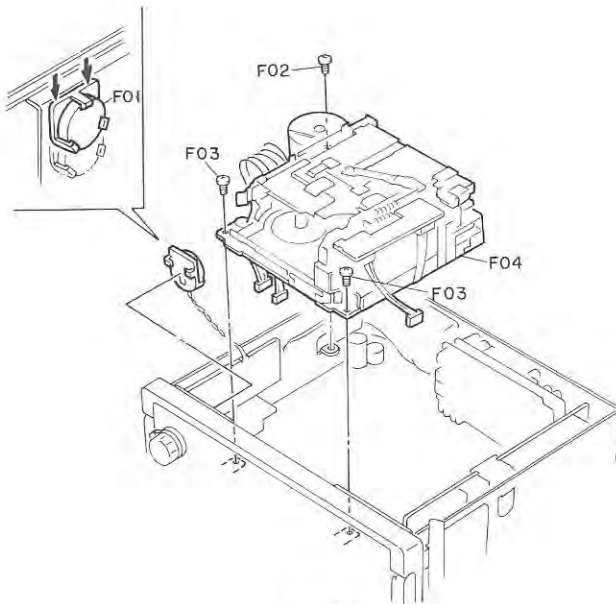
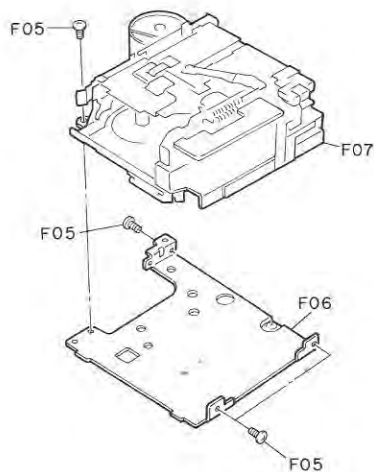

Fig. 2.3.1
Fig. 2.3.2
Refer to Figs. 2.3.1 and 2.3.2.
- (1) Remove the Top Cover Ass'y and Bottom Cover Ass'y referring to item 2.1.
- (2) Remove F01 (Buzzer Ass'y) by pushing it down with your fingers. (See Fig. 2.3.1.)
- (3) Loosen screws F02 (1 pce.) and F03 (2 pcs.), disconnect connectors, and remove F04 (Mechanism Ass'y & Mechanism Bracket).
- (4) Loosen screws F05 (4 pcs.) and remove F06 (Mechanism Bracket) from F07 (Mechanism Ass'y). (See Fig. 2.3.2.)